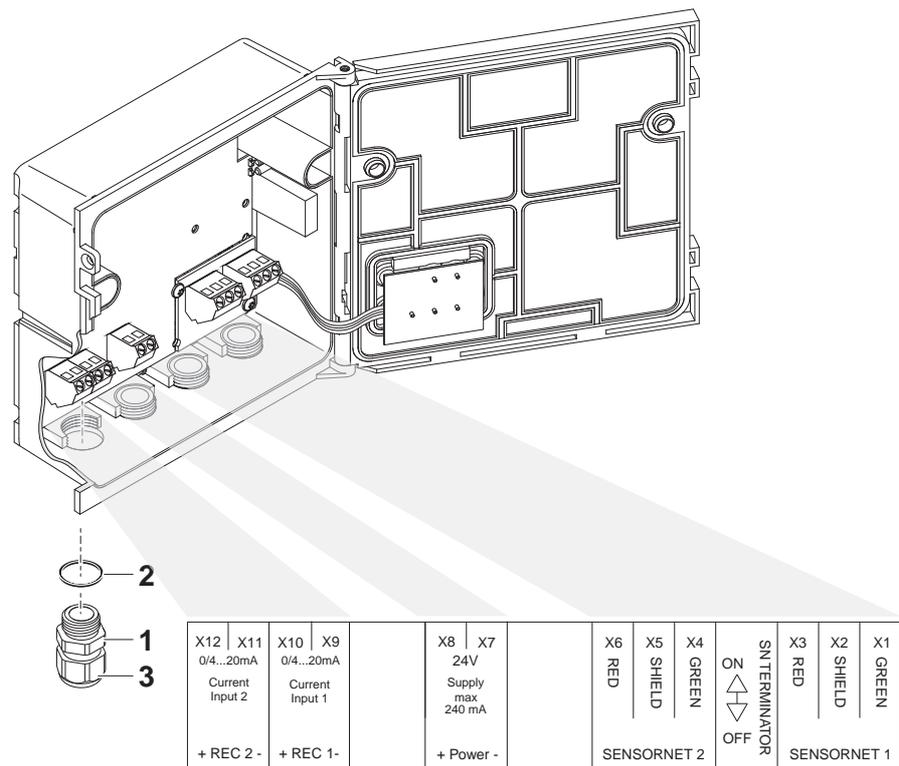

Fig. 3-1 Terminal strip MIQ/IC2
- 3 Screw the cable gland (pos. 1 in Fig. 3-1) with the sealing ring (pos. 2) into the module housing.
4	Loosen the coupling ring (pos. 3 in Fig. 3-1).
7	Tighten the coupling ring (pos. 3 in Fig. 3-1).